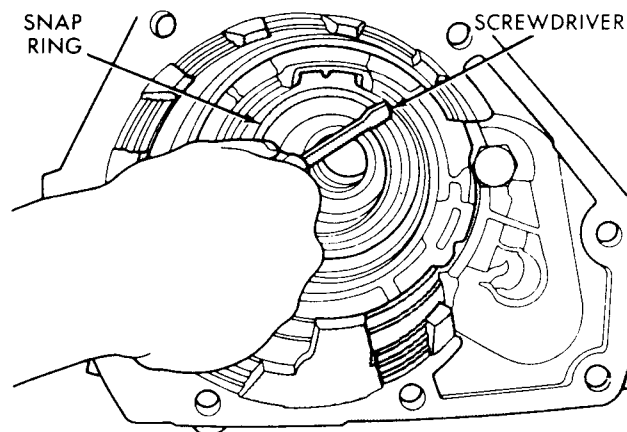

Fig. 4—Snap Ring
(4) Install Governor Support Snap Ring (Fig. 4).
(5) Install output shaft front bearing snap ring in the case. Make sure alignment tool is installed in the gear train. Invert gear train and slip case over shaft.
(6) Expand snap ring and slip case down until snap ring locks in the bearing groove. Release the snap ring.